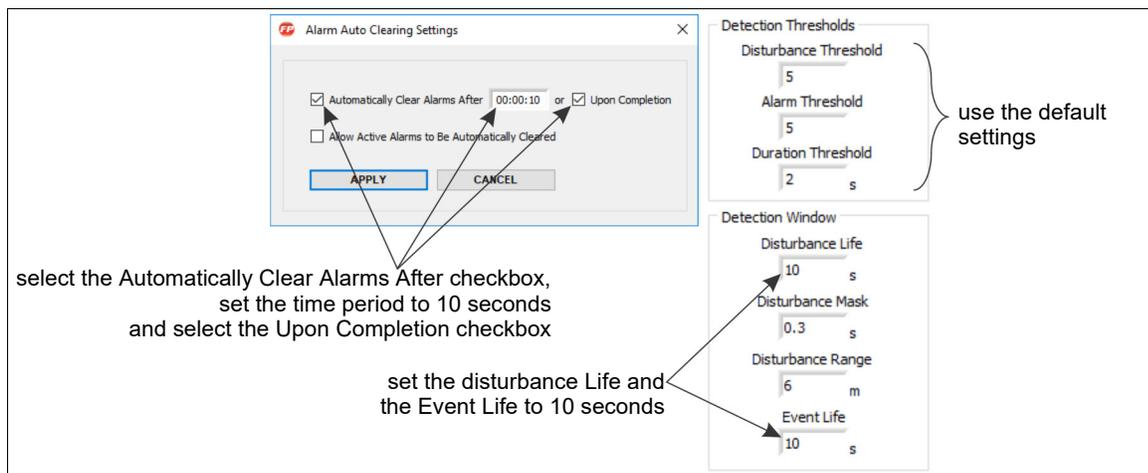

Figure 90 Temporary settings for location calibration
2. Select Configure > Alarm Auto Clearing and check the Automatically Clear Alarms and Upon Completion checkboxes. Set the time to 10 seconds and apply the changes (see Figure 90).